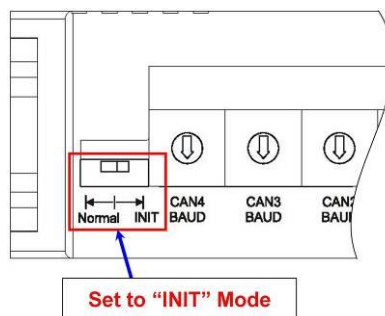

Figure 3-3 Set the I-2534 into the initial mode
Step1: Set the Normal / Initial mode switch to the “INIT” position. The figure 3-3 and 3-4 show the detail.